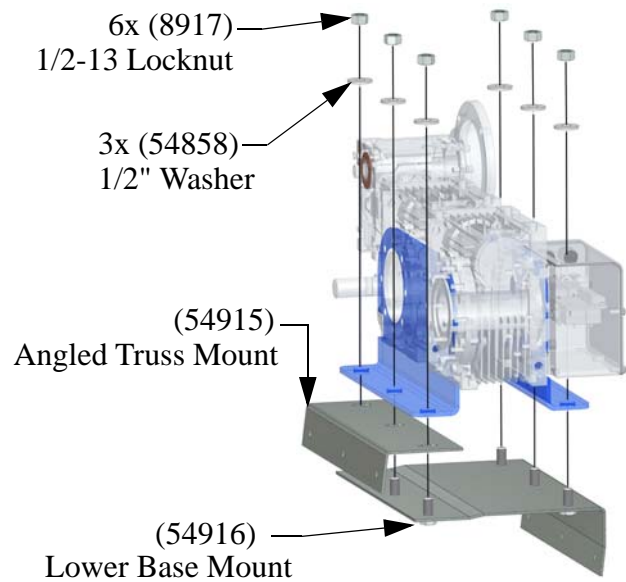

Figure 7. Angle Truss Mount
1. Attach the Angled Truss Mount (54915) as shown (See Figure 7.) Finger tighten hardware for now. You will use the Bracket as a drill template in the next step and then it will be un-assembled.